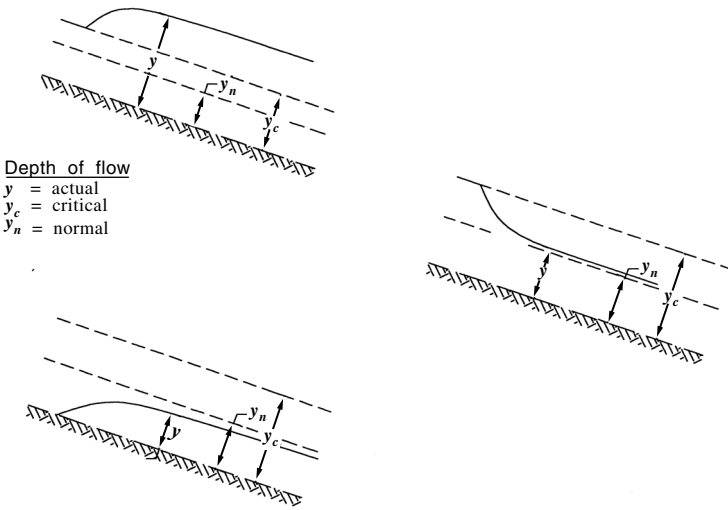

FIGURE S-10 S profiles.
**S profile** An open-channel flow profile corresponding to a steep slope. It is an S1 (backwater) curve, S2 (drawdown) curve, or S3 (backwater) curve, depending on the relationship between the actual depth  $y$ , the critical depth  $y_c$ , and the normal depth  $y_n$  of flow: (a) for S1,  $y > y_n$  and  $y > y_c$ ; (b) for S2,  $y_n = y = y_c$ ; (c) for S3,  $y < y_n$  and  $y < y_c$ . See Figure S-10; M profile.
**Stability** (1) Behavior of a stable numerical solution, i.e., the characteristic of a numerical procedure in which errors decrease with succeeding steps or in which round-off errors of the algorithm are negligible. See convergence. (2) Characteristic of a watercourse or channel that has not suffered, or is protected from, erosion or deposition. See also channel stability; extremal hypothesis \(or variational principle\); regime theory, tractive force theory. A **stable channel** is a channel with a cross section, slope, and alignment